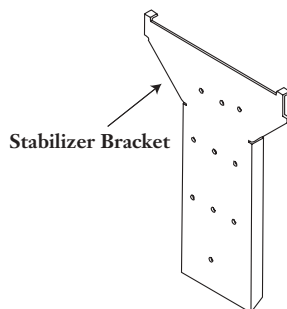

Figure 4
- a) Remove the stabilizer bracket (Figure 4).